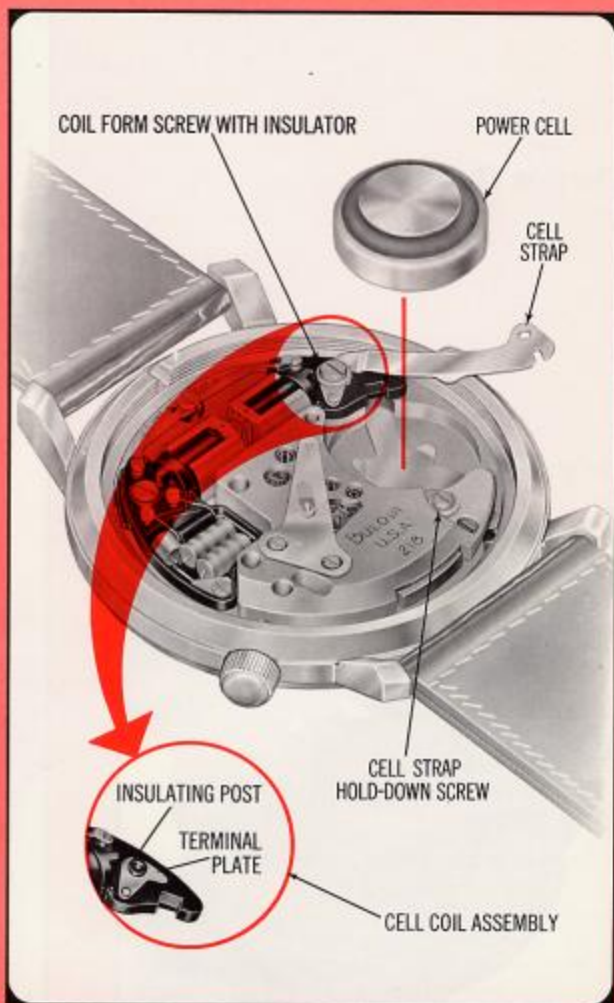

Fig. 3
- c. Loosen cell strap hold-down screw, swing cell strap out and remove Power Cell as shown (see Fig. 3).
- f. Install the Power Cell with imprinted side down (see Fig. 3); reposition cell strap under the hold-down screw and secure screws.